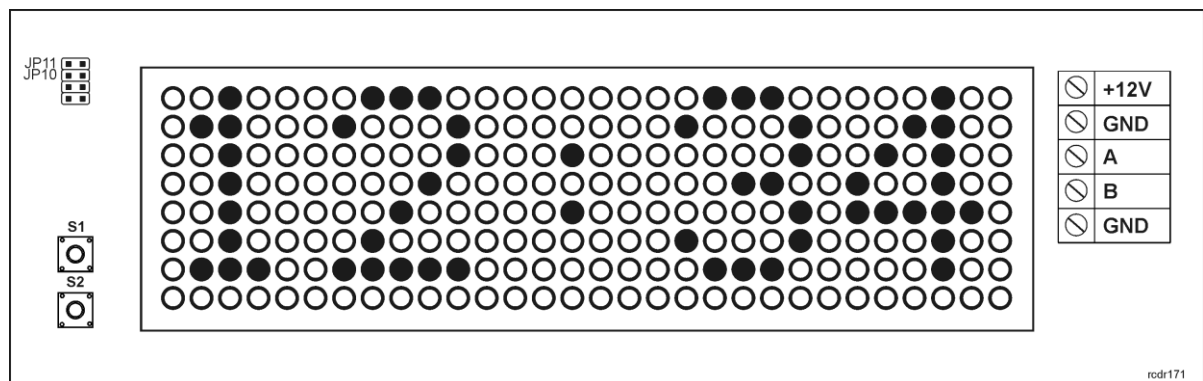

Fig. 1 ASCD-1 display front view
- Press S1 button (fig. 1) for a few seconds with power supply connected till configuration mode is started.